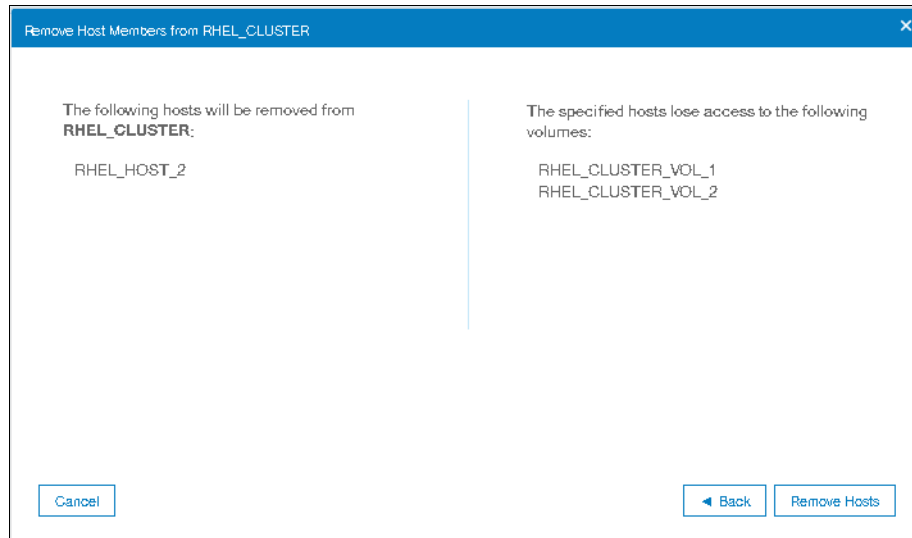

Figure 5-106 Confirmation window
6. Click **Next**. A window informing removal for the selected host member from host cluster will take place as shown in Figure 5-106 on page 261.